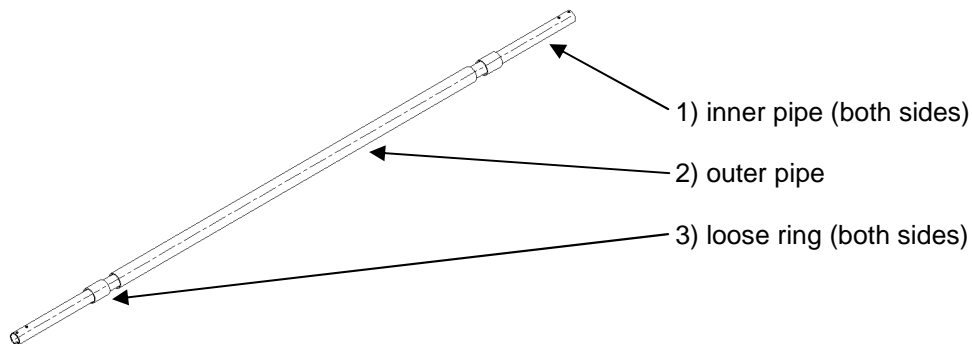

Figure 2
Before the nested fill can be removed, the telescopic fill support pipes must be unlocked (see Figure 1), so that the inner pipe can slide into the outer pipe (see Figure 2).
3. Slide inner pipe (1) from the telescopic fill support pipe in the outer pipe (2) (see Figure 2).
5. Remove loose ring (3).